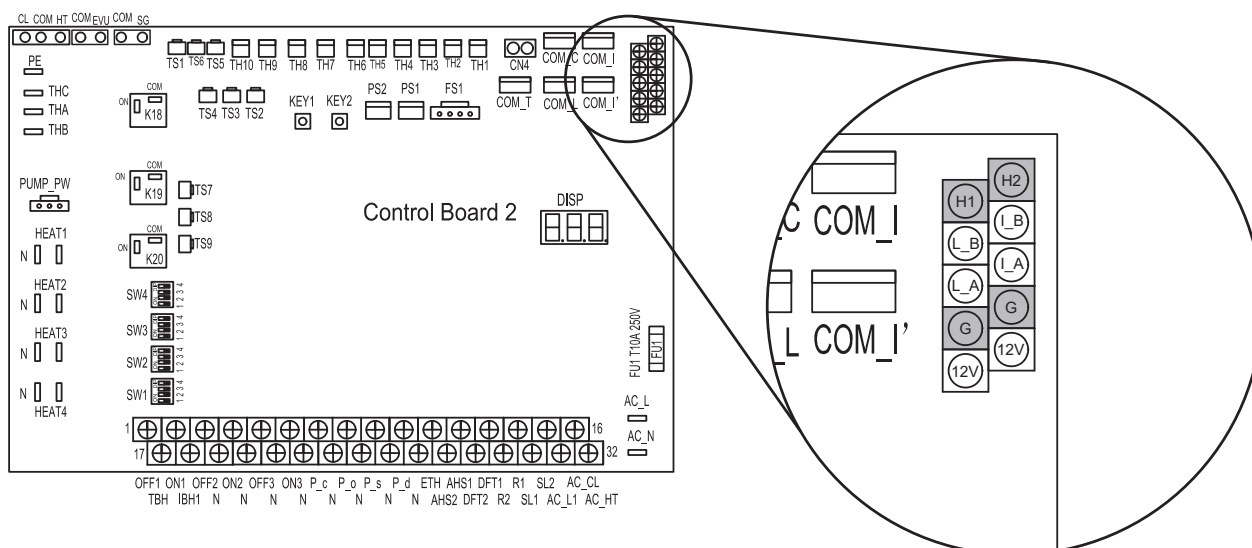

Figure 7-1: Hydraulic PCB U19 communication ports
5. Connect the modbus cable to the H1(B-) and H2(A+) and the shielding to an available ground (G) terminal on the Hydraulic PCB of the heat pump. Refer to Figure 7-1 and the caution below.
**Cable shielding **MUST** only be connected to a ground connection on the heat pump PCB. Refer to Figure 7-1.**